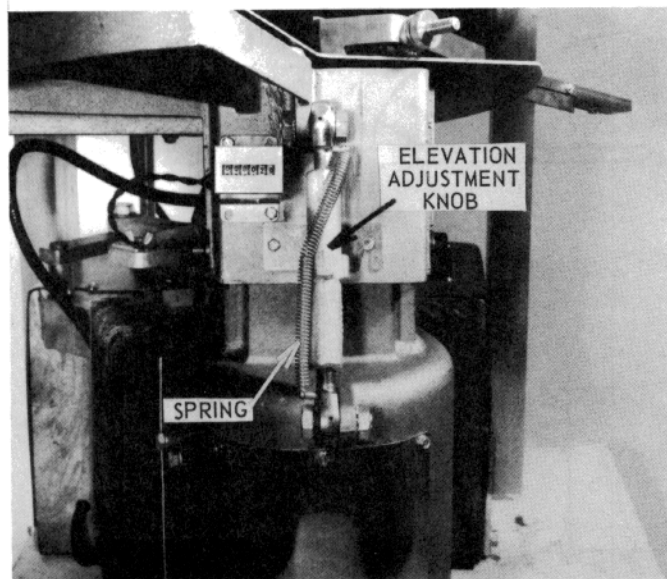

Figure 18 — Elevation Knob
4. **ELEVATION** — The target elevation is controlled by the elevation adjustment knob below the platform at the front of the trap (see Figure 18). This causes the platform along with the throwing arm to tilt fore and aft. It is easier to disconnect the spring to turn the elevation adjustment knob. **CAUTION: FOR SAFETY SAFE RELEASE THE TRAP AND UNPLUG THE POWER CABLE.**